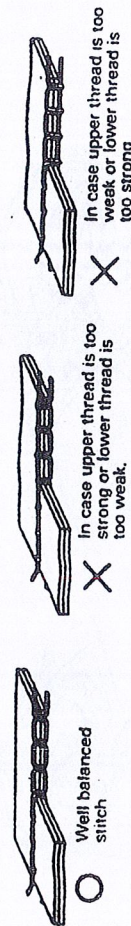

Fig.11
15. Adjustment of the thread tension (Fig.11):